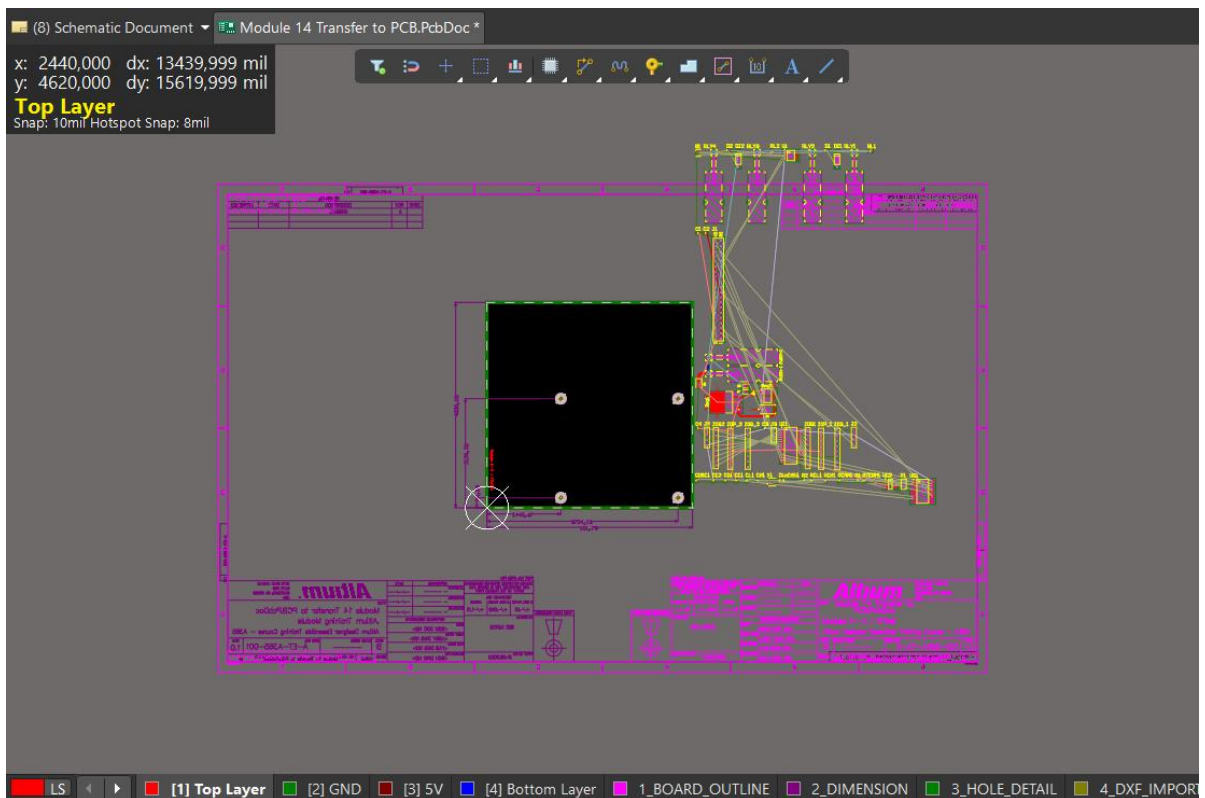

Figure 4. PCB after initial Assigning Differential Pair
17. After the ECO is executed the components and unrouted connections can be seen on the right side of the PCB, Figure 4.